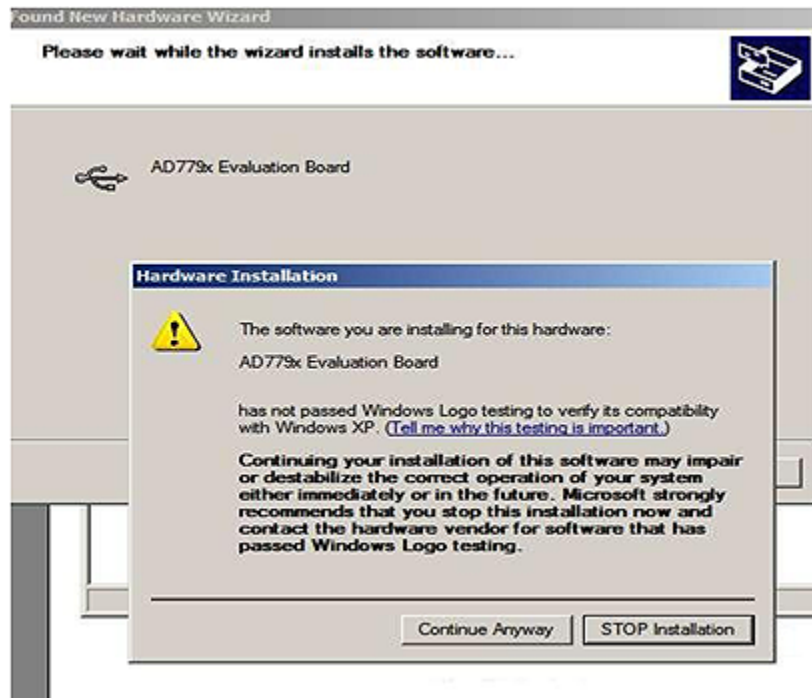

Figure 2. Hardware Installation Window
3. Follow the on-screen instructions that appear automatically. During the installation process, if the **Hardware Installation** window appears (see Figure 2), click **Continue Anyway** to successfully complete the installation of the AD7796 evaluation board.